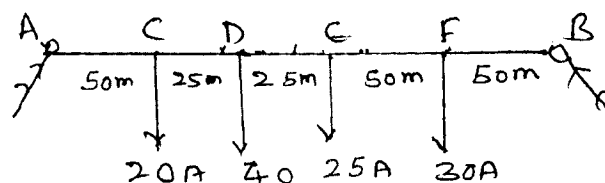

Fig Q8(c)
- c. A distributor AB is fed from both ends. At feeding point A the voltage is maintained at 235V and at B 236V. The total length of feeder is 200m and loads are as shown in Fig Q8(c). The resistance per 100meters of one conductor is  $0.04\Omega$ . Calculate the current in various sections of the feeder and the minimum consumer voltage. (10 Marks)